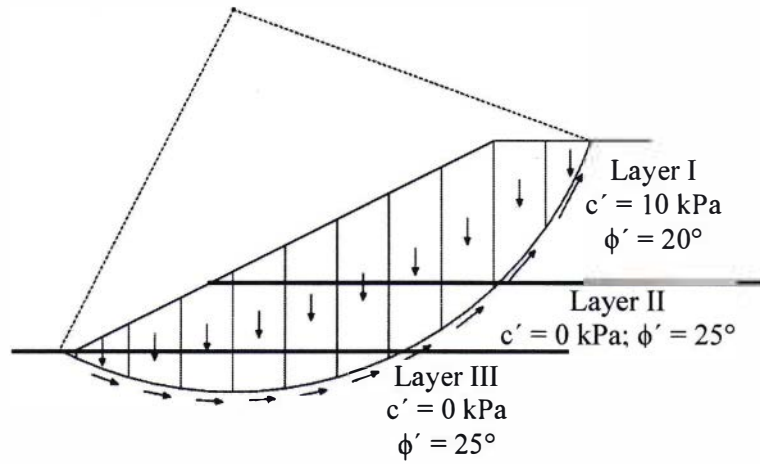

Figure 5b
- (ii) Estimate FS for the condition demonstrated in Fig. 5b. 3